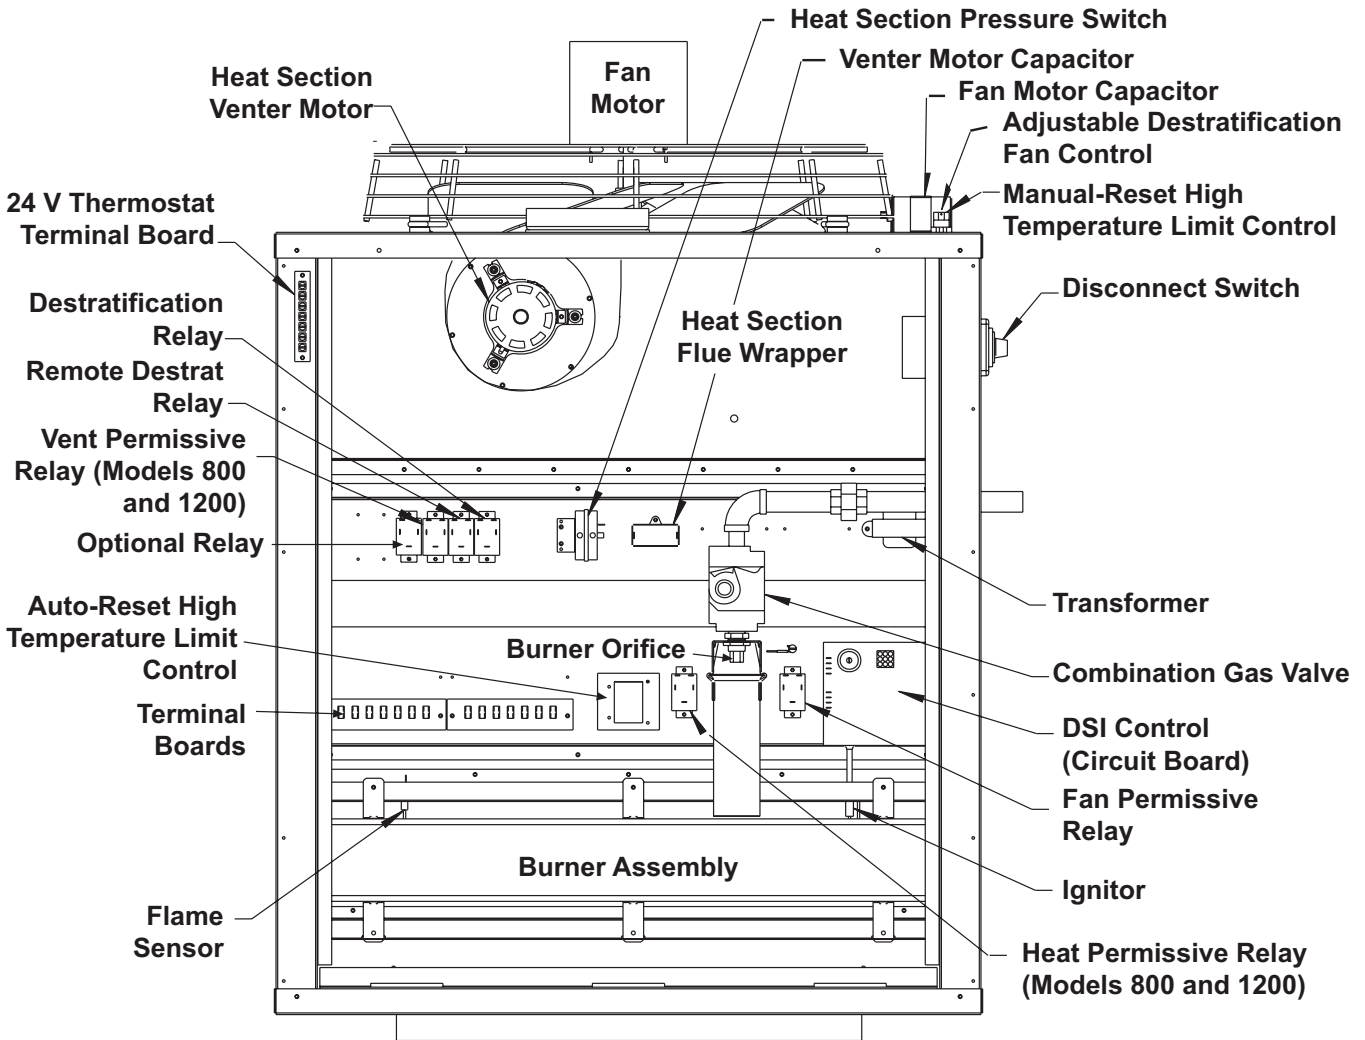

Figure 15. Component Locations (Typical)
Locations for the following controls are shown in **Figure 15**.
- The heat section (combustion air proving) pressure switch (see **Figure 15** for location) is a pressure-sensitive switch that monitors air pressure to ensure that proper combustion airflow is available. The switch is a single-pole/normally-open device that closes when a differential pressure is sensed between the venter housing and the flue collection box. Each section in the heater has a pressure switch. In addition, heaters with more than one heat section (unit sizes 800 and 1200) have a flue collection box section pressure switch that senses the negative pressure in the main venter housing.
The automatic-reset high temperature limit control (see Figure 15 for location) provides protection in the case of motor failure or lack of airflow due to a restriction at the inlet or outlet.
The high limit control is located at the top of each heat section (see Figure 15 for location). If the setpoint is reached, the control interrupts the electric supply to the gas valve in that heat section. If the control activates, identify and correct the cause before resetting the switch (refer to TROUBLESHOOTING section).
Each heat section in the heater has a combination gas valve (see Figure 15 for location): unit size 400 has one, unit size 800 has two, and unit size 1200 has three. The gas valve is powered by the 24V control circuit through the thermostat and safety controls. The diaphragm-type valve is pre-set at the factory and provides regulated gas flow.
Each heat section in the heater has a fan motor (see Figure 15 for location): unit size 400 has one, unit size 800 has two, and unit size 1200 has three. The fan motor is equipped with automatic-reset thermal overload protection. If the motor does not run, the cause may be due to improper current. Ensure that the correct voltage is available at the motor.